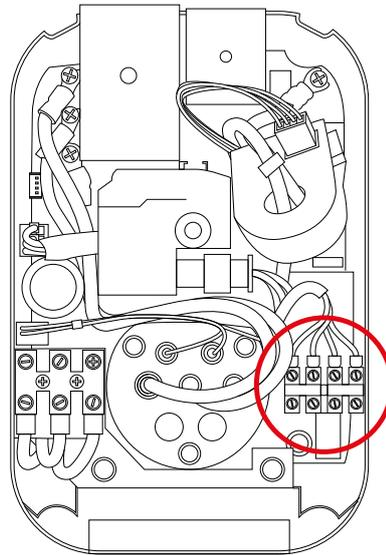

Figure 8: CT connector block.
- Connect the CT clamp for Net Solar and Active Load Management (ALM) functionality to the four-pin connector block situated lower right as seen in figure 8.